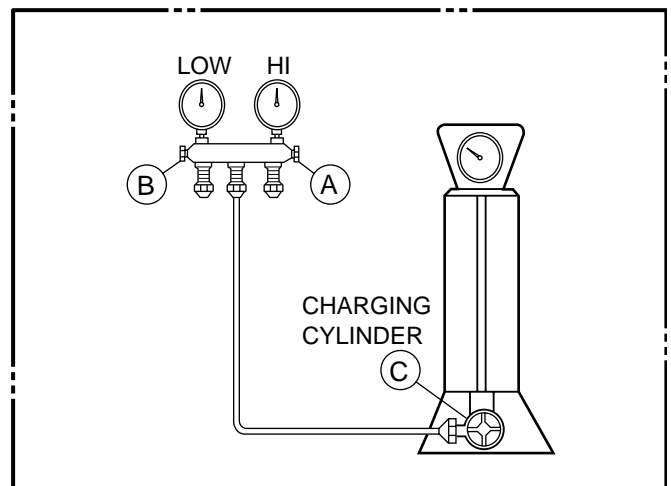

Figure 31B-Charging
- 2) Connect the charging cylinder as shown in Figure 31B.
- 4) Remove the hose from the vacuum pump and place it on the charging cylinder. See Figure 31B. Open valve C.